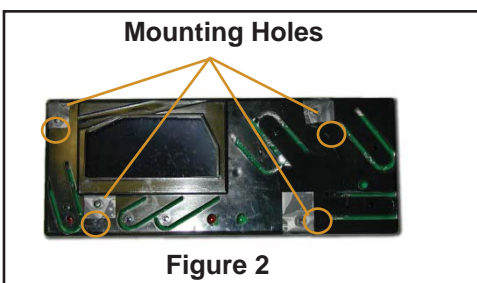

Figure 2
**Step 2.** Locate the mounting holes on the control head and use tape or glue to place the spacer over the mounting holes. If tape is used, puncture a starting hole through the tape. See **Figure 2**